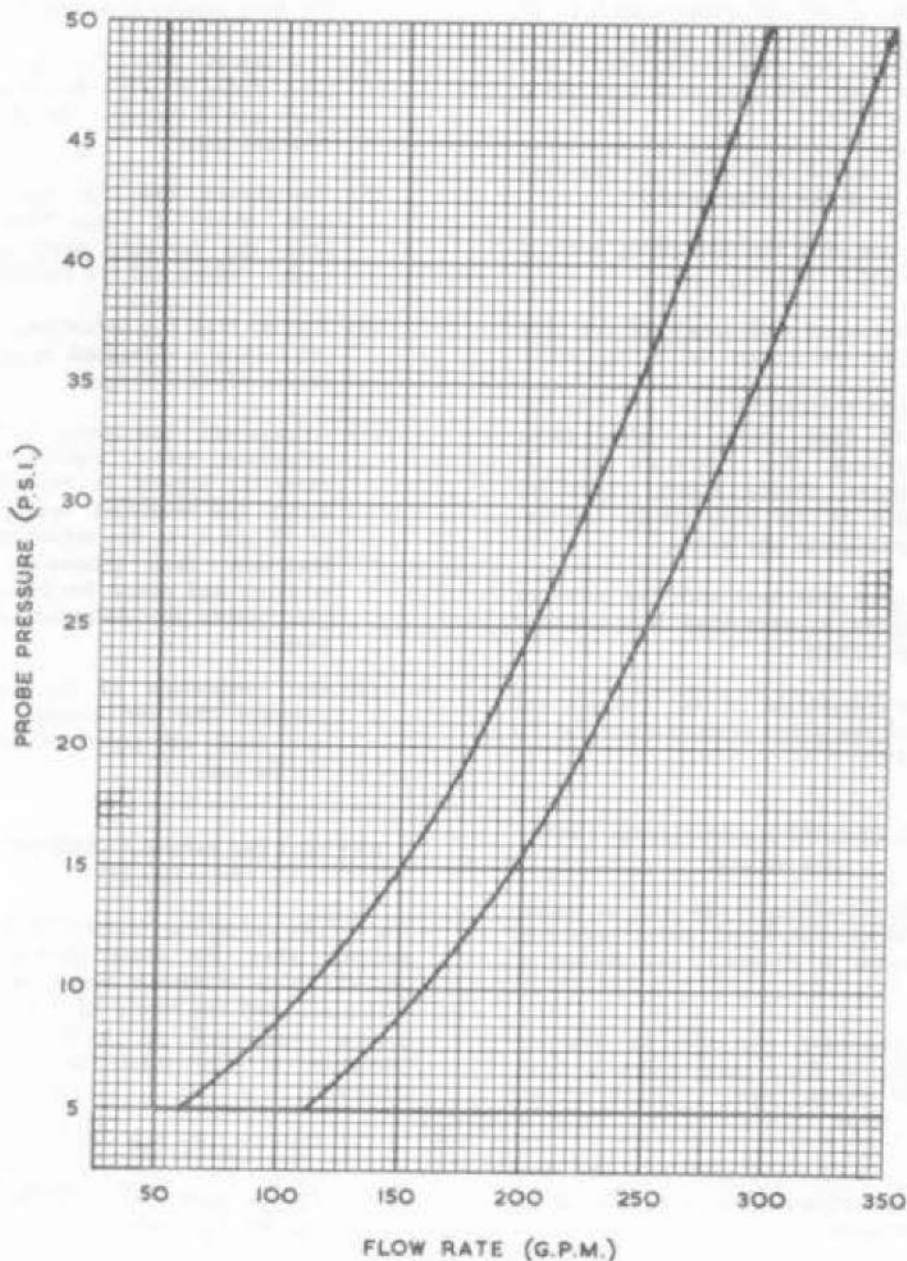

Fig.12.Probe pressure/flow rate curve
- (5) Record the C.G. indicator reading, this must be approximately zero.
- (6) Set the tanker bulkmeter to zero. The total number of gallons of fuel pumped into the aircraft must be noted. The time taken to pump this total must be taken, using a stop watch.
- (7) Commence refuelling, adjust tanker r.p.m. to give an initial flow rate of approximately 250 to 270 gallons per minute with all tanks filling.
- (8) When the flow rate and probe pressure have stabilised, which must occur within one minute, time the fuel flow in the following 2 to 3 minutes. Calculate the flow rate and check that the probe pressure is within the permissible band as shown on fig.12.
- (9) Check and record, every minute, the C.G. indicator and probe pressure readings. At the end of five minutes the C.G. indicator reading must not exceed 15 deg. (or 22,500 lb.ft.) tail heavy.